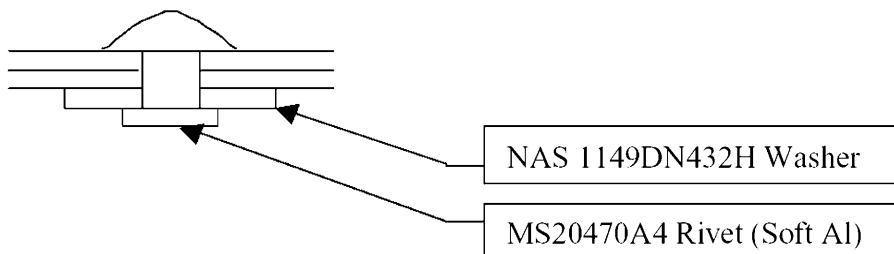

Figure 4-11b. Metal Wire Stitching Repair
## 4-55b. METAL WIRE STITCHING REPAIR. (See Figure 4-11b.)
- (1) Substitute two rivets in lieu of each staple where stitching was previously used or is specified. Maintain a minimum of .75 inch spacing between rivets.
- (2) When materials being joined include Stainless Steel, Galvanized Steel or Steel, use:
- (a) MS20615M4 Rivet (Monel) and NAS1149CN432R Washer (See Figure 4-11b.)
- (3) When materials being joined include only aluminum and nonmetallic materials use:
- (a) MS20470A4 Rivet and NAS1149DN432H Washer (See Figure 4-11b.)